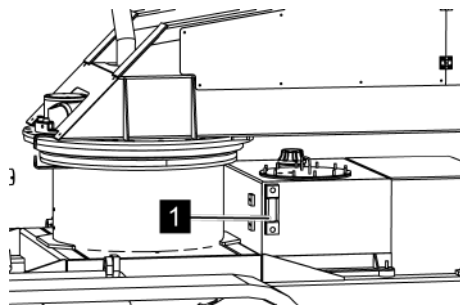

Fig. 163: Hydraulic oil inspection glass
5. → Check the oil level on the inspection glass (Fig. 163/1).